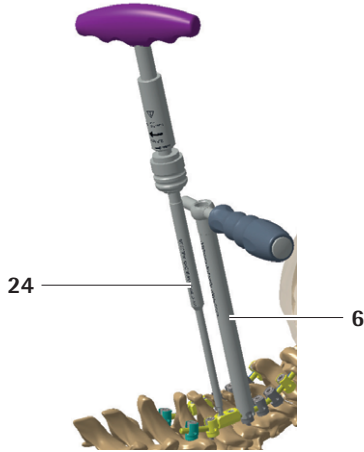

Fig. 51
- ▶ Once the rod connector is positioned correctly, the set screws can be finally tightened, see Fig. 51, see Chapter 3.16.